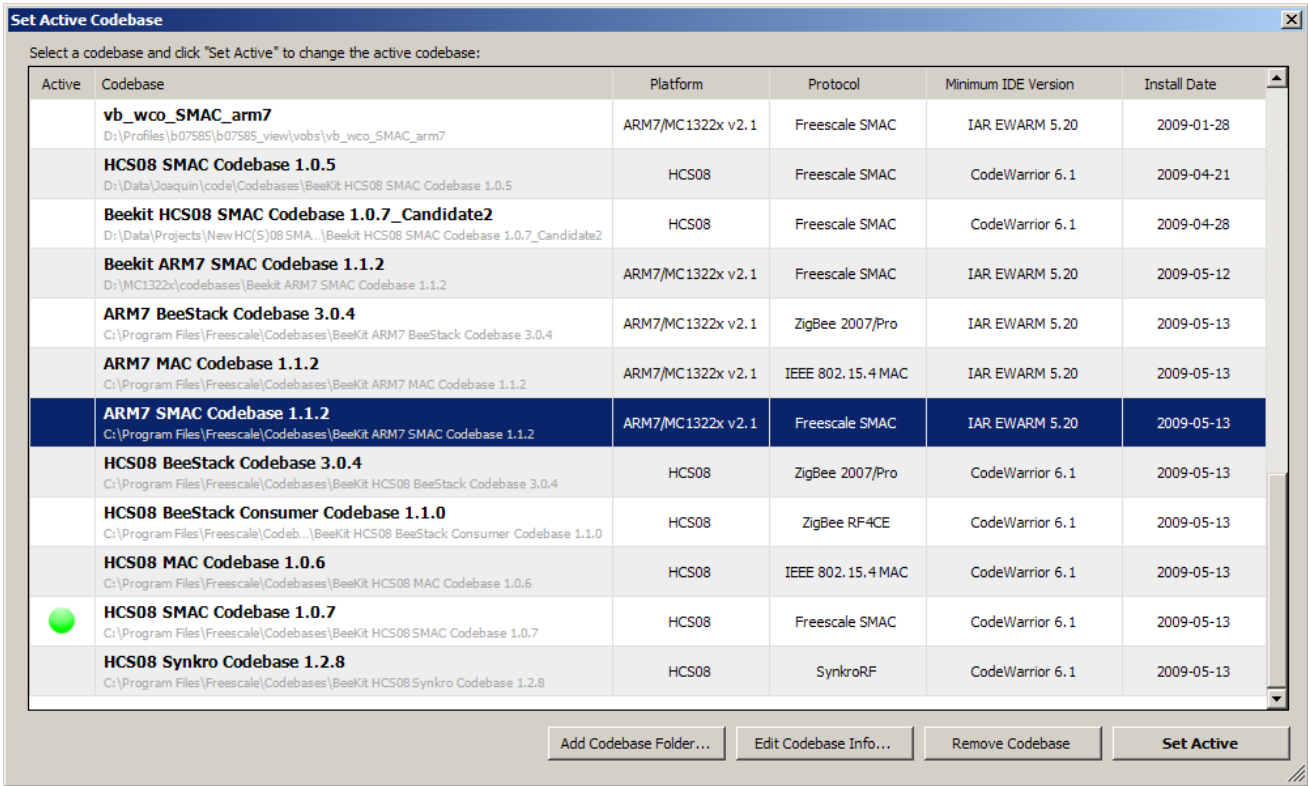

Figure 1-2. selecting SMAC Codebase
2. Select the SMAC Codebase as shown in Figure 1-2.